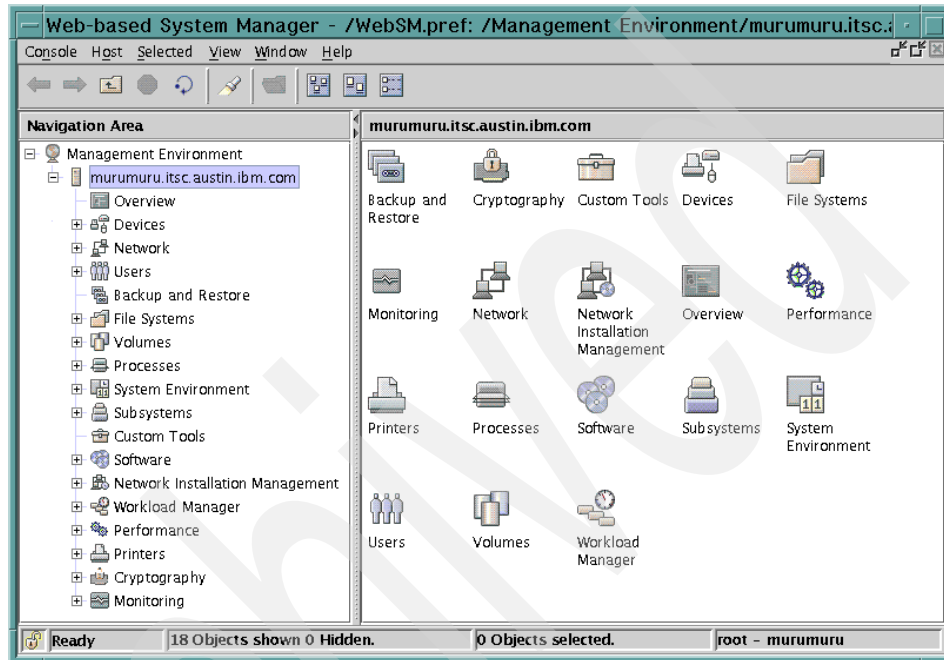

Figure 7-26 Web-based System Manager on AIX 5L Version 5.2
1. Type **wsm** at the command prompt to launch the Web-based System Manager managing the AIX system, as shown in Figure 7-26.